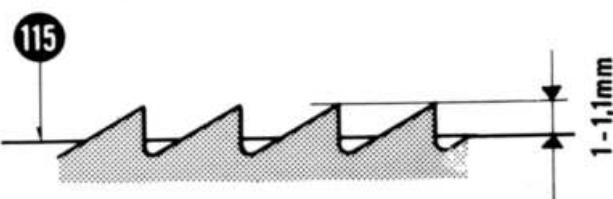

Fig. 40
Next adjust the height of the feed dog. The teeth of the feed dog (114) should protrude by about 1,0 to 1,1 mm (= 0,040"–0,044") above the top edge of the needle plate (115). Adjustments are carried out by means of the crank (116) of the feed dog lowering device. Set the lowering button (23) until the sewing mark is opposite the zigzag symbol. Take off the base cover plate (117) with needle plate (115). The two fixing screws (118) of the clutch-half (116) both situated on the side facing the frame, are now easily accessible. After loosening these screws move the clutch-half (116) forward or back, thus lifting or lowering the feed dog. After tightening the screw (118) refit the cover plate (117) and check that the feed dog protrudes 1,0 to 1,1 mm above the top of the needle plate (Fig. 40). Check with gauge N 32 NU 11-A.